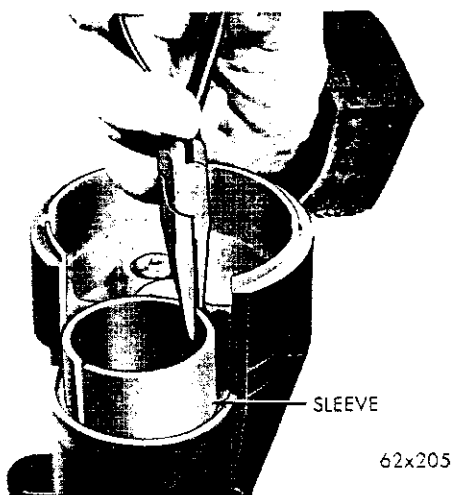

Fig. 27—Removing the Solenoid Coil Sleeve
(15) Remove the solenoid coil sleeve (Fig. 27).